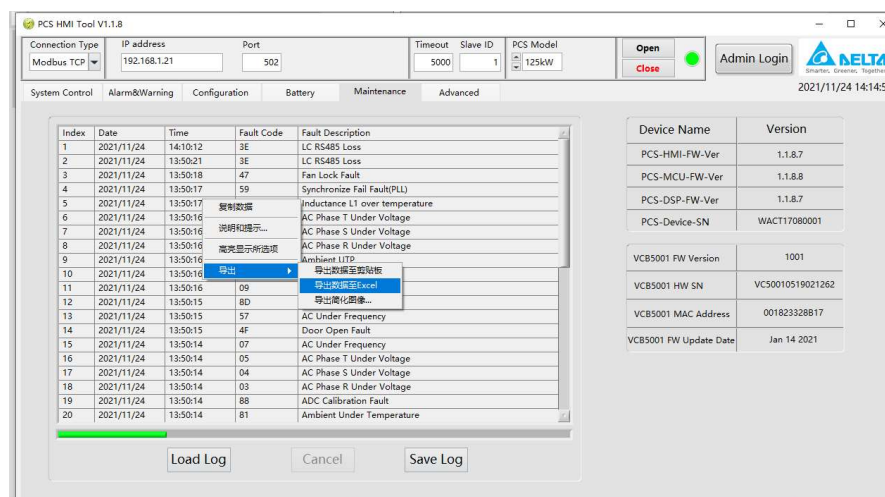

Figure 40. Save Fault Log Information
Step 1: In any area of the table, right-click and the following dialog box will pop up, as Figure 40.